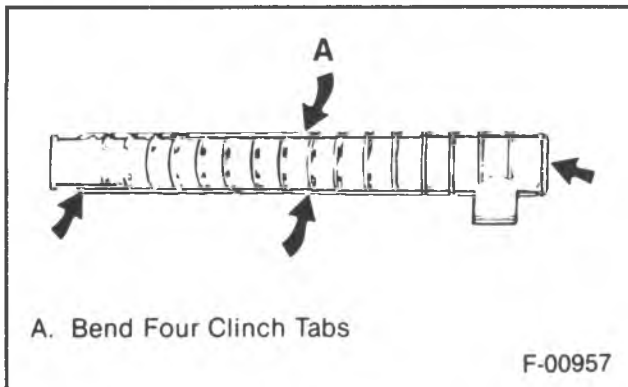

Figure 37 — Sealing the Tank to the Radiator Core
9. Position the tank and gasket to the header, clamp it in place and secure it by bending four clinch tabs as shown in figure 37.